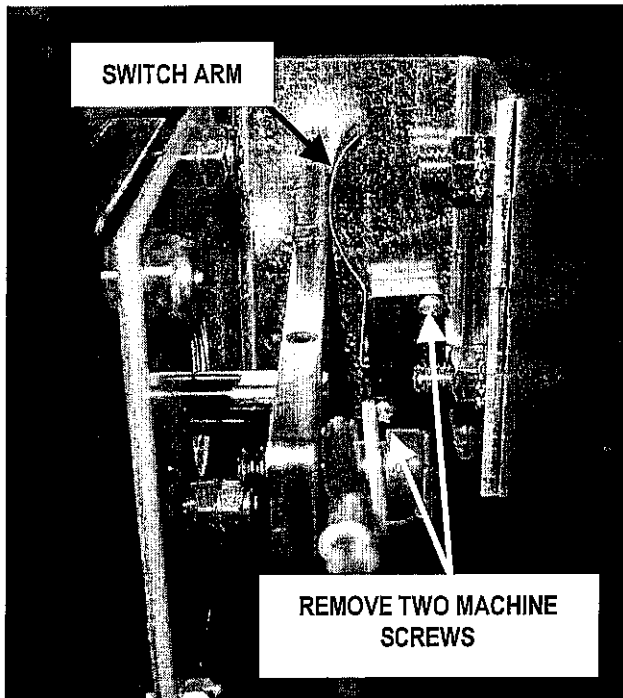

Figure 11 Position Sensor Limit Switch
3. Unscrew the two screws securing the sensor to the motor mounting bracket. See Figure 11.